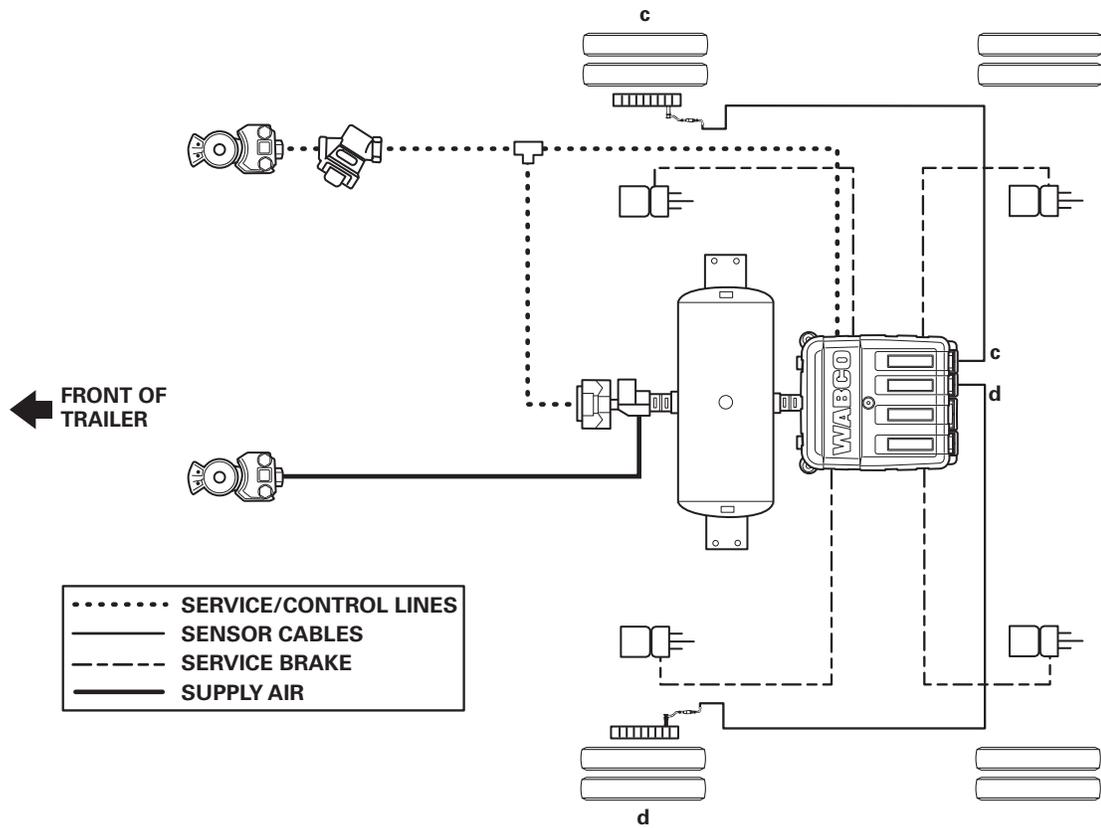
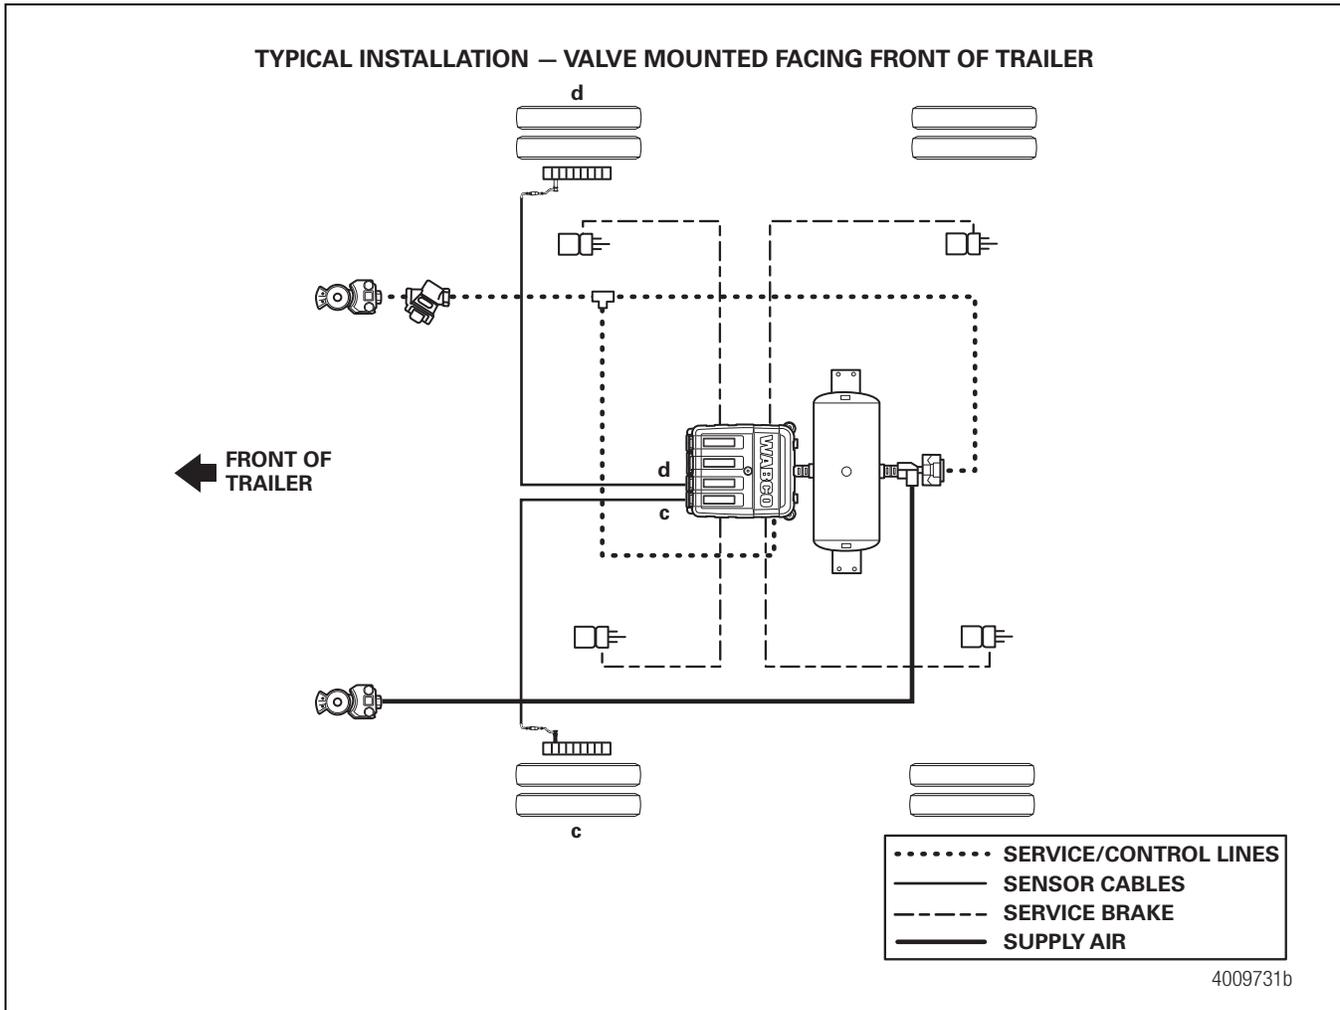

Figure 9
Figure 10
4. Connect the air delivery lines to the appropriate brake chambers, 3/8-inch NPTF. Refer to Figure 9 for valves mounted with sensors facing the rear of the trailer and Figure 10 for valves mounted with sensors facing the front of the trailer.